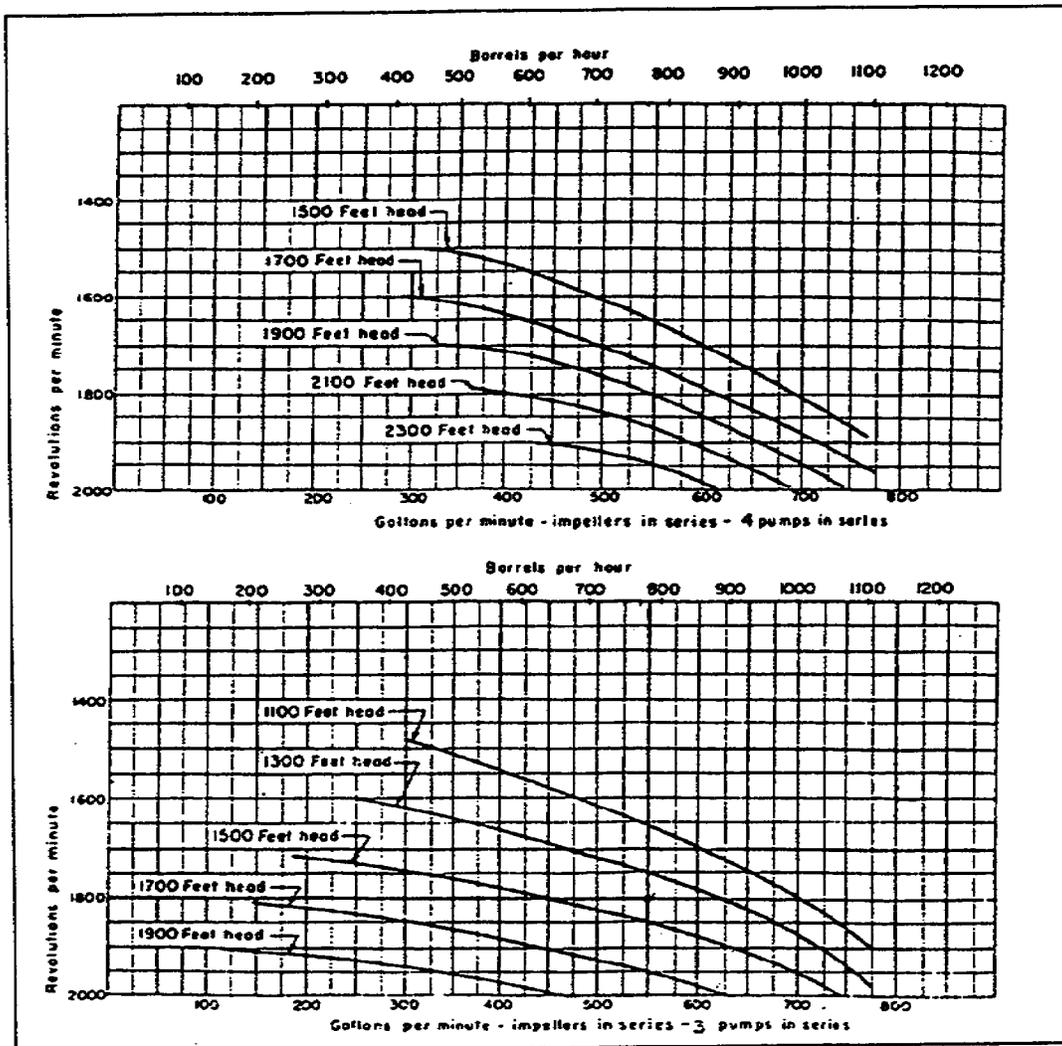
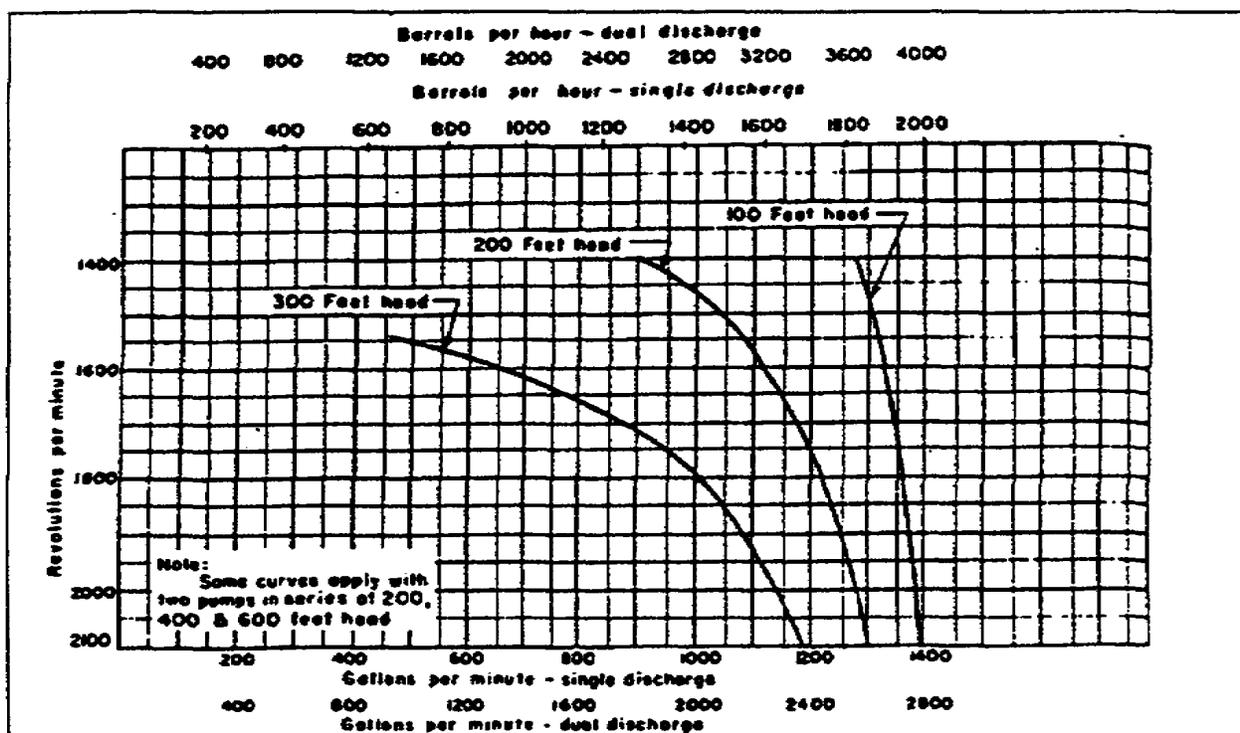

Figure 6. Operating characteristics of a standard pump station for 6-inch pipeline
Figure 7. Operating characteristics of 6-inch, two-stage booster pump at constant head conditions
There should be only enough pumps on line (operating) at any station to produce the required pressure (FTH) and throughput (GPM or BPH). Further regulate pressure by adjusting pump speeds between minimum and maximum speeds permitted. Determining pump speeds is largely based on experience. Pump speeds are highly variable, influenced by line diameter, number of pumps on line, specific gravity and viscosity of products, and other hydraulic characteristics of the particular pipeline and pump station in operation. Pump station pump speeds may also be determined using Figure 6. These graphs are for three or four pumps in series.
a. Figures 6 and 7 shows the operating characteristics of pipeline pump station facilities. From these graphs, any one of three factors--the pumping unit operating speeds, the volume of fuel throughput and the operating head--may be estimated provided the other two factors are known. For example, determine the operating speed required for three--pump operation of a station on 6-inch pipeline to deliver 785 BPH (550 GPM) against a head loss to the next station of 1,395 feet.
(1) Enter the bottom chart in Figure 6 at 550 GPM. Follow the vertical line at this point to about midway between the curves labeled "1,300 FTH" and "1,500 FTH."
(2) Follow the intersecting horizontal line to the left side of the chart and read 1,800 RPM. Therefore, the three-pump operation calls for speed for each pump of 1,800 RPM. Similarly, assume that a single 6-inch booster pump is to be used to pump fuel from a marine terminal to a tank farm. Data includes that the pump must overcome 300 FTH loss between the dockside and tank farm.
c. See Figure 7. Assume that a single 6-inch booster pump is to be used to pump fuel from a marine terminal to a tank farm. Data includes that pump must overcome 300 FTH loss between the dockside and the tank farm. Determine the volume of fuel delivered by the pump at 1,800 RPM, assuming the pump stages are connected in series (single discharge). Find the point at which the 1,800-RPM line intersects the curve labeled "300 FTH." This point coincides approximately with the line representing 1,000 GPM. Therefore, the pump throughput is about 1,000 GPM or about 1,429 BPH.